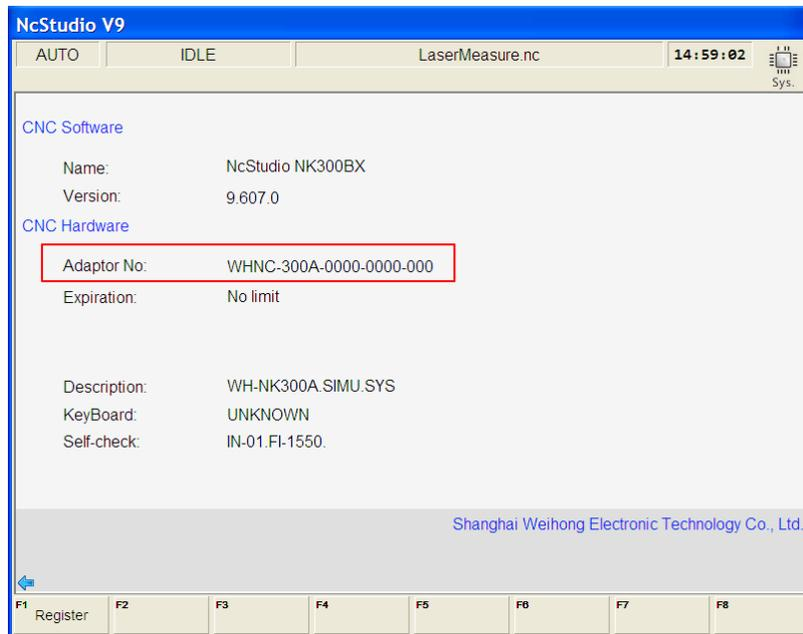
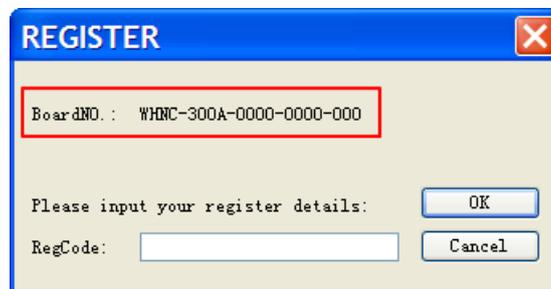

Fig. 3-91 Board serial number
Fig. 3-92 Board serial number in the pop-up dialog box
- 1) Turn to system info interface to get the adaptor serial number, as shown in Fig. 3-91. Or you can press F1 “Register” in Fig. 3-91 and get the serial number in the pop-up dialog box, as shown in Fig. 3-92.